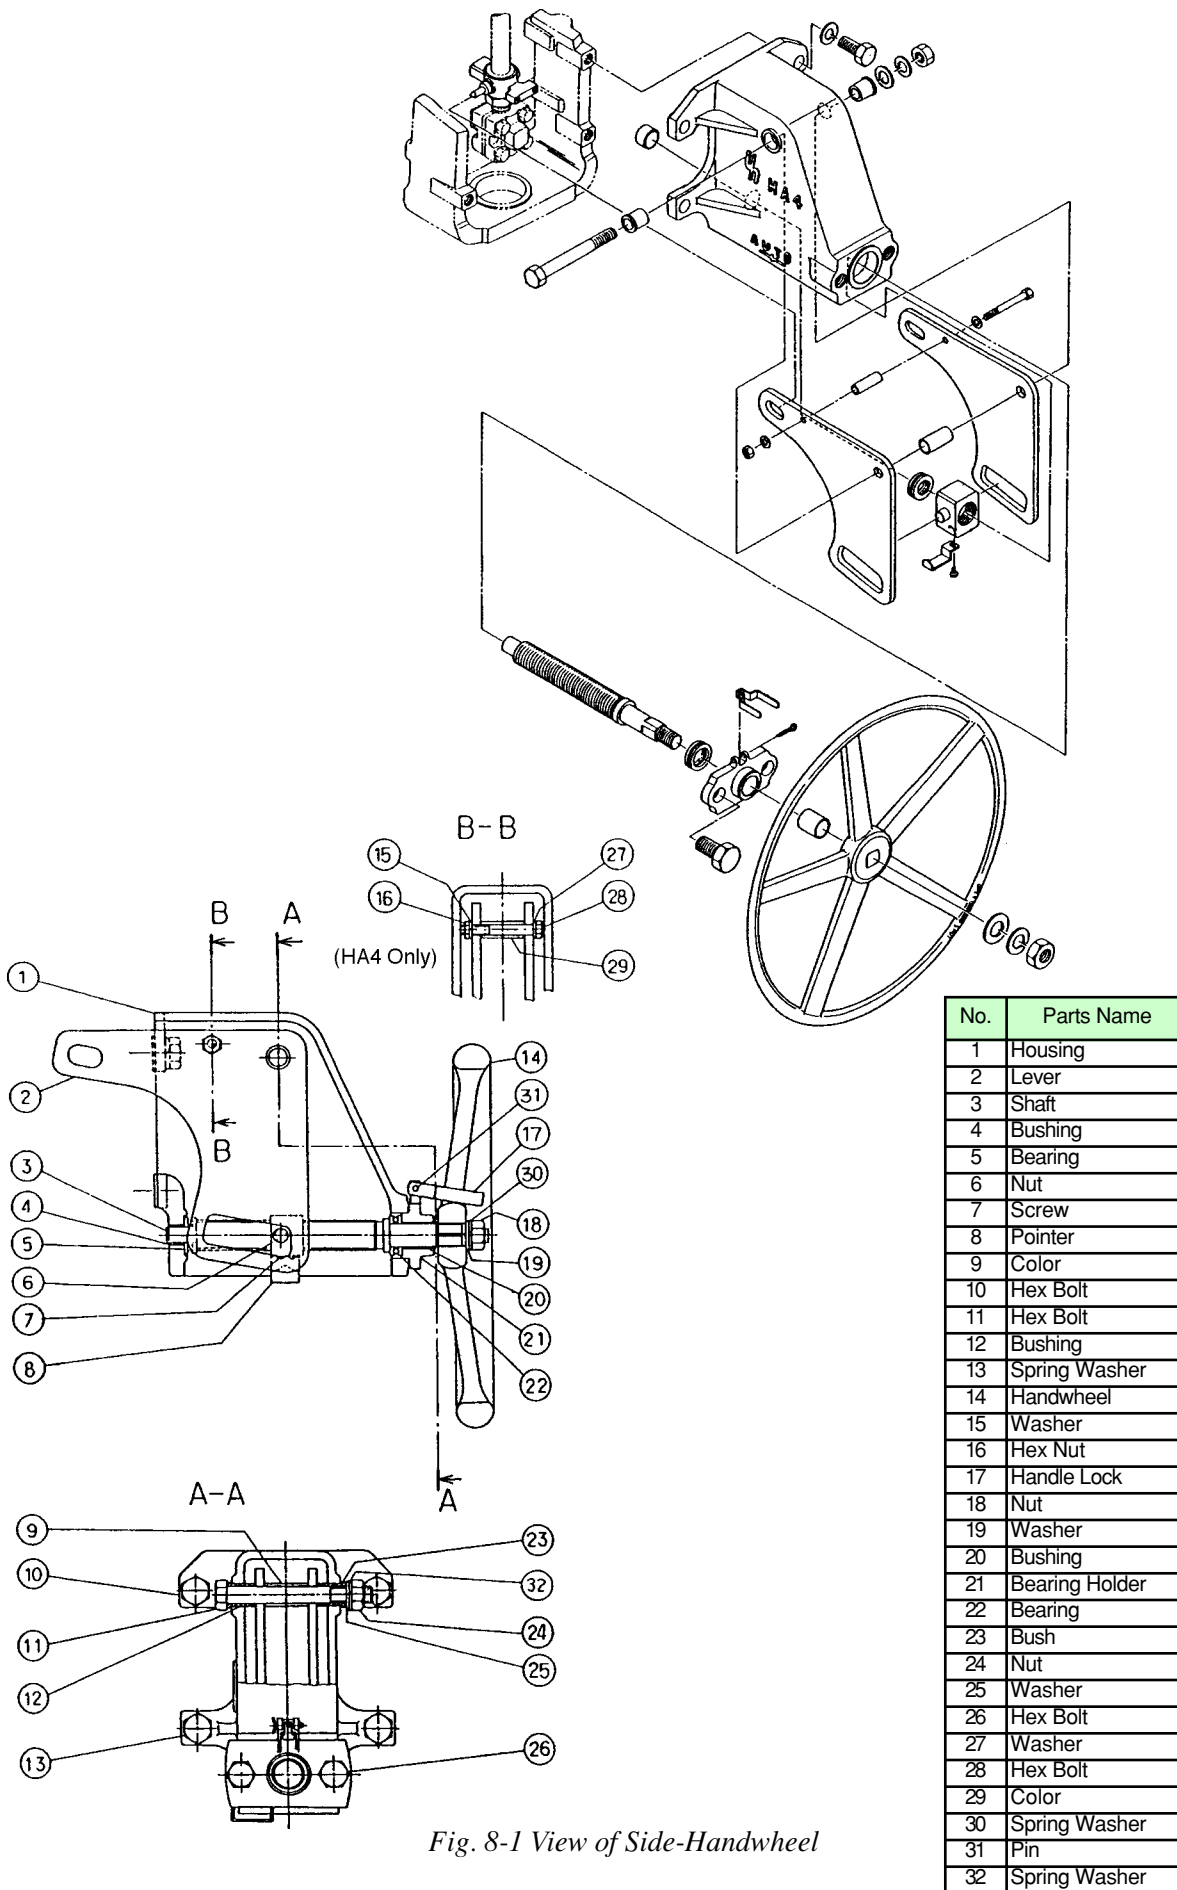

Fig. 8-1 View of Side-Handwheel
To install the side handwheel, refer to Fig. 8-1 and proceed as follows:
- (2) By turning the handwheel, set the pointer of the operation nut at the AUTO position.
- (3) Loosen the bolt (item number 6 as-show in Fig. 8-1) and widen the distance between levers.
- (4) Install the handwheel on the mounting pad at the back of the actuator, with the mounting-bolts.
- (5) Engage the holes at the end of two levers to the pointer boss and engage those of the other ends to the boss of the operation nut, and then tighten the bolt.
- (6) When the control valve is in the automatic mode of operation, set the pointer of the operation nut at the AUTO position and keep the handwheel locked.
Before starting disassembly, check that the pointer is set at the AUTO position. (Refer to Fig. 8-1)
To assemble the side handwheel, refer to Fig. 8-1 and follow the disassembly procedure in the reverse order.